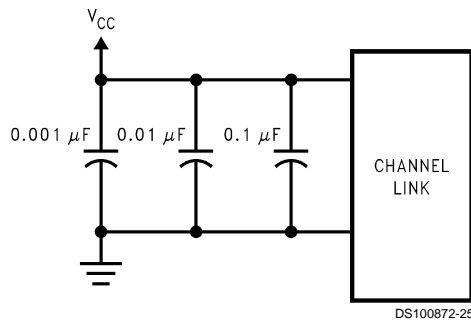

FIGURE 11. CHANNEL LINK Decoupling Configuration
**DECOUPLING CAPACITORS:** Bypassing capacitors are needed to reduce the impact of switching noise which could limit performance. For a conservative approach three parallel-connected decoupling capacitors (Multi-Layered Ceramic type in surface mount form factor) between each  $V_{CC}$  and the ground plane(s) are recommended. The three capacitor values are 0.1 μF, 0.01 μF and 0.001 μF. An example is shown in *Figure 11*. The designer should employ wide traces for power and ground and ensure each capacitor has its own via to the ground plane. If board space is limiting the number of bypass capacitors, the PLL  $V_{CC}$  should receive the most filtering/bypassing. Next would be the LVDS  $V_{CC}$  pins and finally the logic  $V_{CC}$  pins.